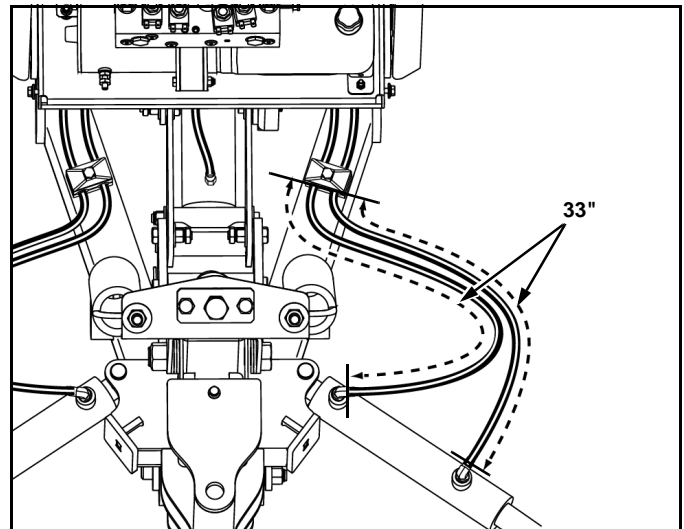

Figure 1-13
16. Adjust each hose length from clamps to hose end fittings to 33 in. and tighten both clamp screws. (See Figure 1-13).